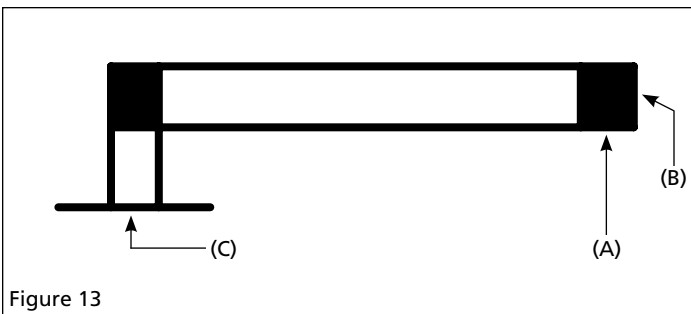

Figure 13
4. Inspect lower surface (A) and outer side surface (B) of ring (See Figure 13). Measure thickness (C) of ring with calipers. Replace if foreign matter enters (A, B) or deep damage is found or (C) dimension is less than 2.5 mm (0.10 inches) at any point around the rings circumference.